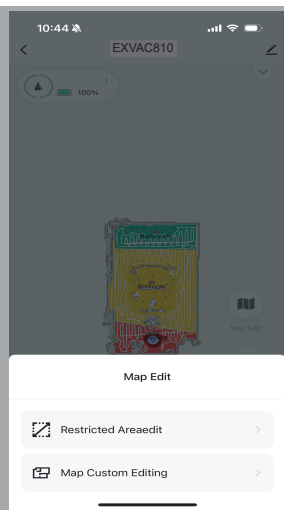
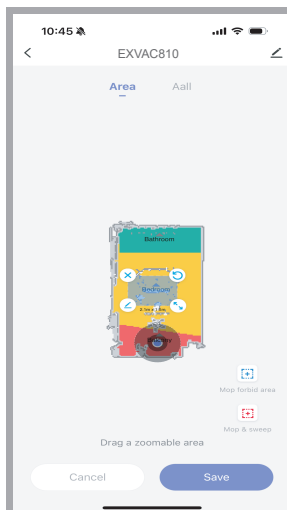
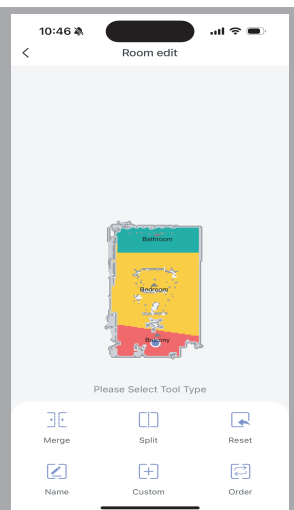

Fig.14
Fig.15
Fig.17
D). Map Edit: click the icon  to set the restricted area (Fig.14, Fig. 15, fFig.16: forbidden area, sweep area, virtual wall), and edit room (Fig.17: merge rooms, split rooms, name rooms,etc.).